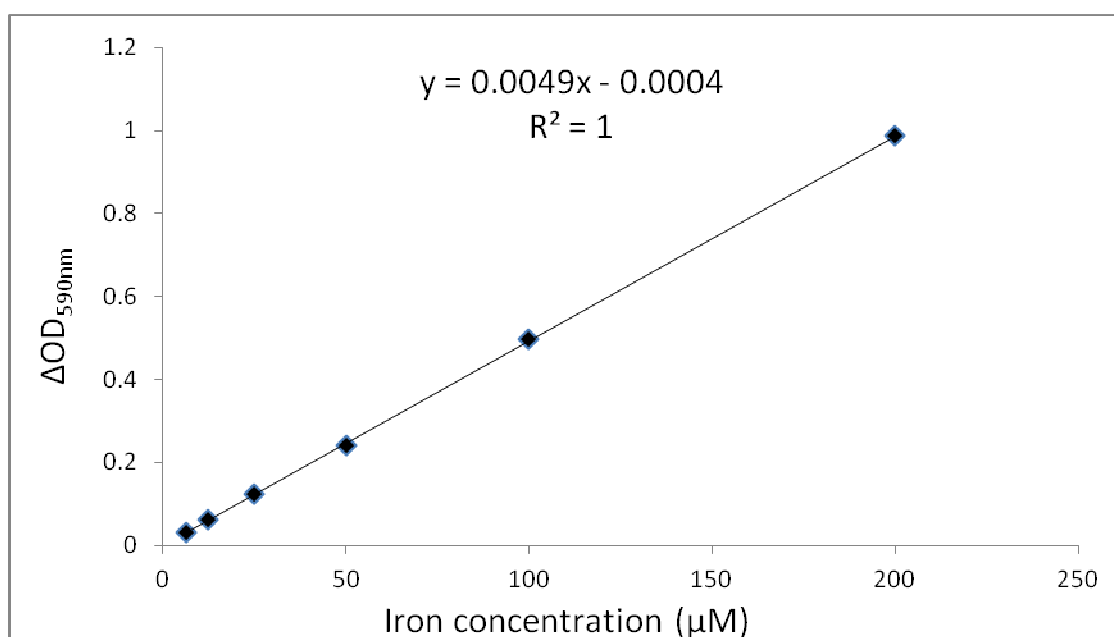

Figure1. A typical iron standard curve measured by the ScienCell™ Iron Assay kit
Data from the Iron Assay kit measuring iron solutions with concentrations ranging from 6.25 to 200 μ M show a linear relationship between OD_{590nm} and iron concentration (Figure 1). Linear detection range is 1.56 to 500 μ M in 96-well plate assay.
2. Based on the calibrated OD_{590nm} of the iron standard, make a standard curve by plotting ΔOD_{590nm} as a function of iron concentration (See Figure 1 for a typical standard curve). Determine the equation and R^2 value of the trend line.